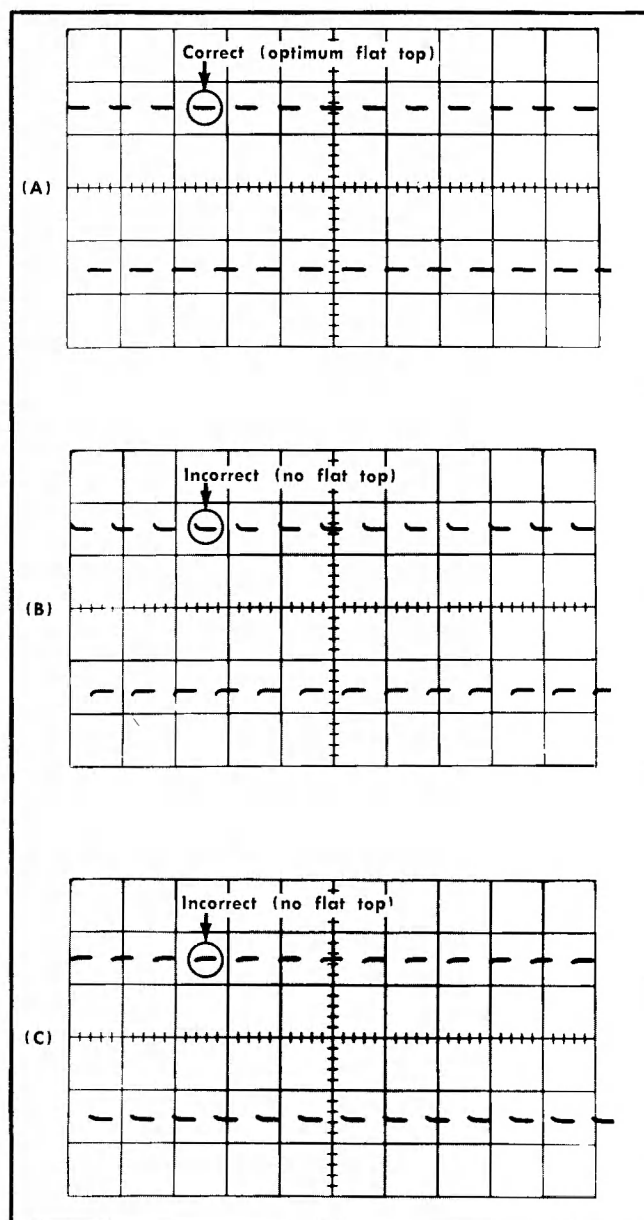

Fig. 6-2. (A) Typical CRT display showing correct VOLTS/CM switch compensation; (B) and (C) incorrect compensation.
- Check—Compensation of the waveform for level flat top, overshoot and undershoot at all VOLTS/CM switch settings, for deviation less than  $\pm 3\%$  (1.2 mm), see Fig. 6-2. Adjust the output of the generator to maintain about 4 cm of display amplitude. It will be necessary to remove the 50 ohm termination at VOLTS/CM settings higher than 1 volt.